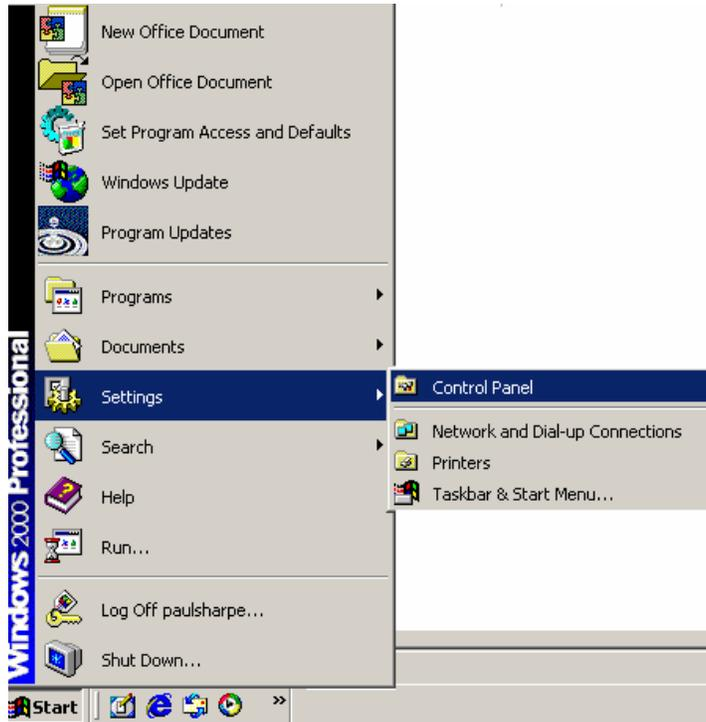

Figure 6-15: Access Windows Control Panel
Step 1: Open **Windows Control Panel** (**Figure 6-15**).